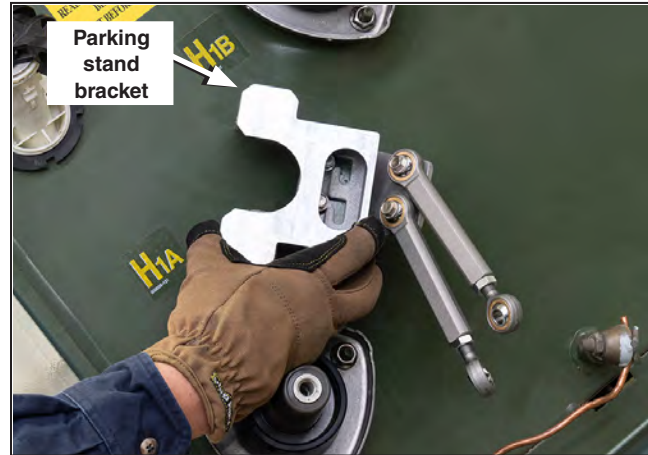

Figure 13. Slide the parking stand bracket onto the two bolts.
STEP 2. Insert the new parking stand bracket onto the two bolts by aligning the two open slots with the bolts, as shown in Figure 13. Make sure the bolts are loose enough to accommodate the thickness of the parking stand bracket.